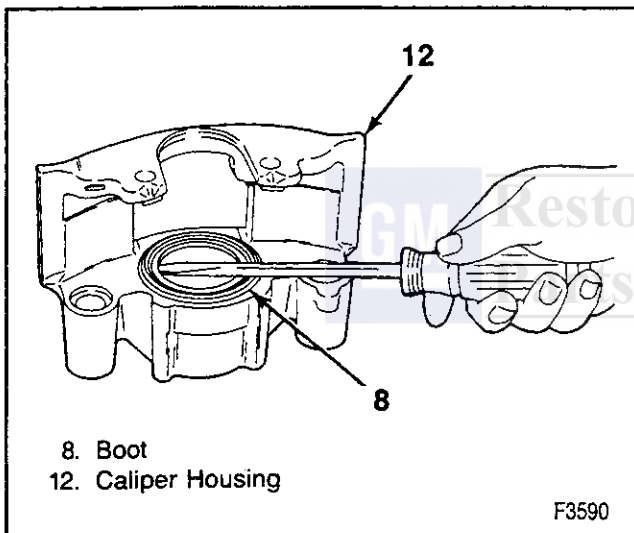

Figure 26—Removing the Boot
4. Boot (8) (figure 26).
5. Piston seal (10).
6. Bleeder valve (11).